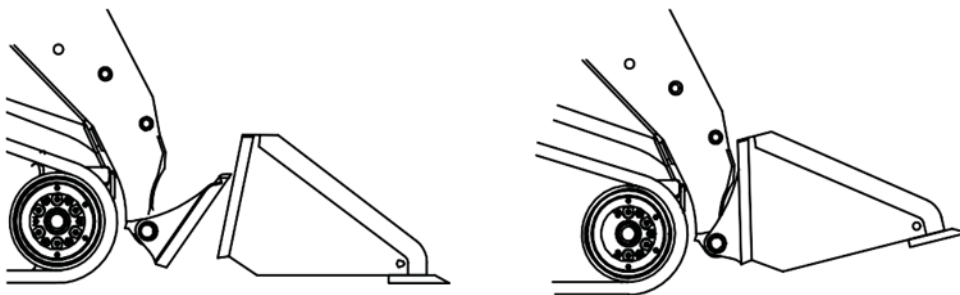

FIGURE 3.2A QUICK ATTACH MECHANISM LOCKED TO ATTACHMENT
2. Drive the skid steer to the attachment plate and hook the top edge of the skid steer quick attach mechanism under the lip of the brush cutter's attachment plate (see figure 3.2a below).
3. Slowly tilt the skid steer quick attach mechanism upward until the brush cutter attachment plate is flat against the skid steer quick attach mechanism (see figure 3.2a below).